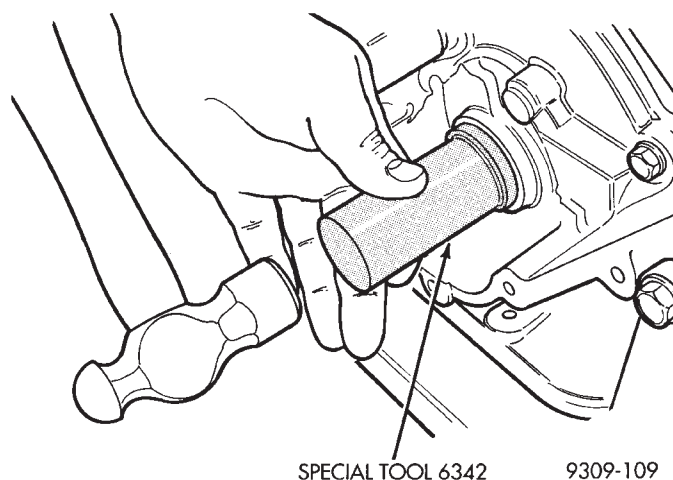

Fig. 80 Crankshaft Oil Seal with Special Tool 6342—Installation
(1) Install crankshaft seal using Special Tool 6342 (Fig. 80).